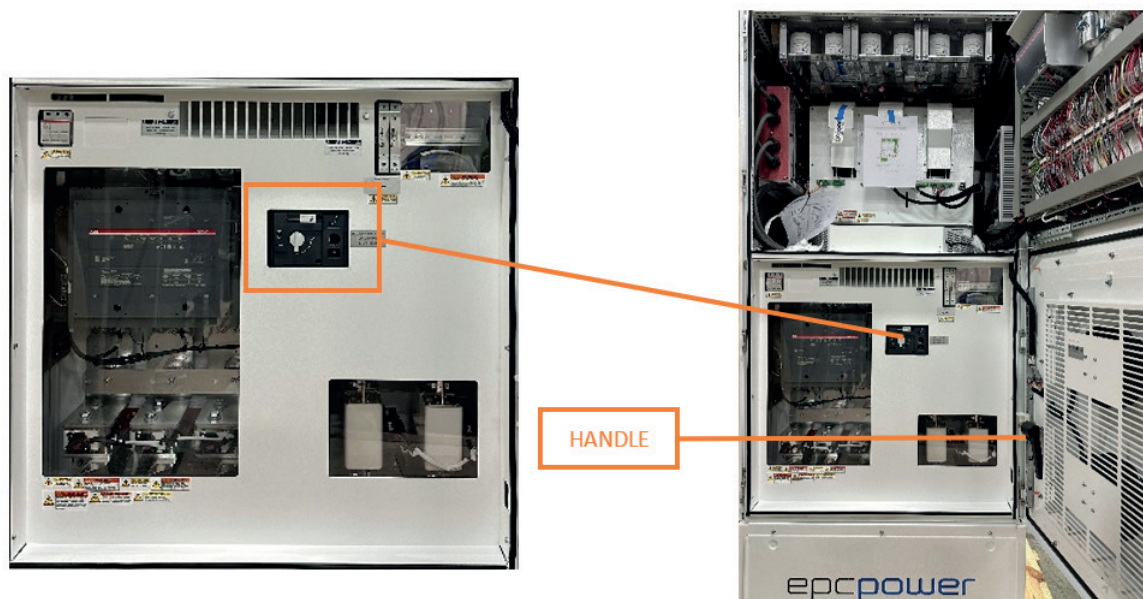

Figure 161. C-Cab XXL DC Disconnect Location
- b. **Switch OFF M-Cab XXL:** Move DISC-102 disconnect switch to OFF position. See Figure 161 for reference.